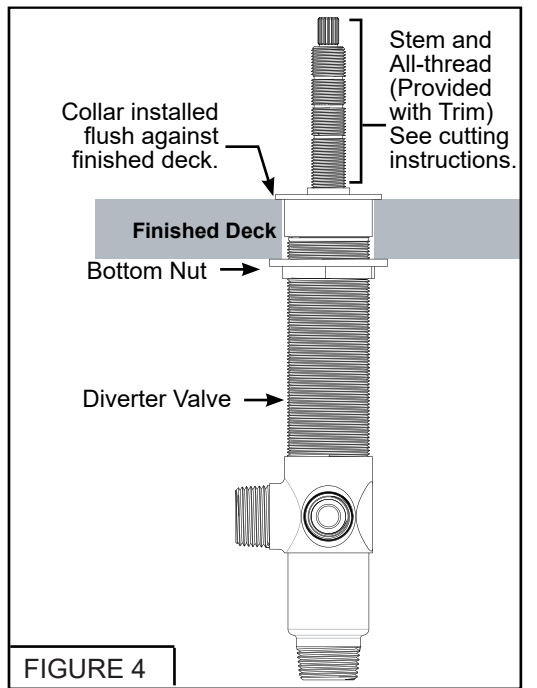

FIGURE 4
1. Allow 1-1/2" diameter hole in deck for the diverter valve. Un-thread the collar from valve body. Insert valve body from underneath deck and replace collar. The diverter valve should now be flush with the top of the deck. Tighten the valve against the bottom of the deck using the bottom nut. See Figure 4.